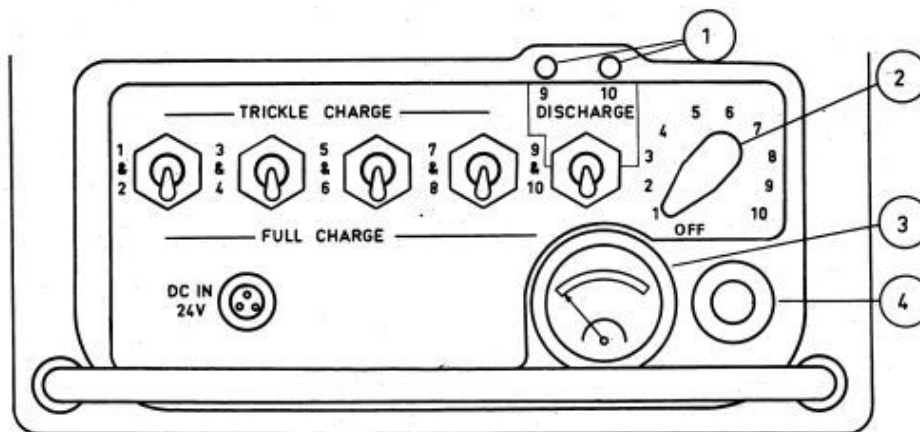

FIG 2 – TOP PANEL CONTROLS, REGULATOR, BATTERY CHARGER F1
15. Fig 2 shows the top panel controls and Table 2 lists their functions.